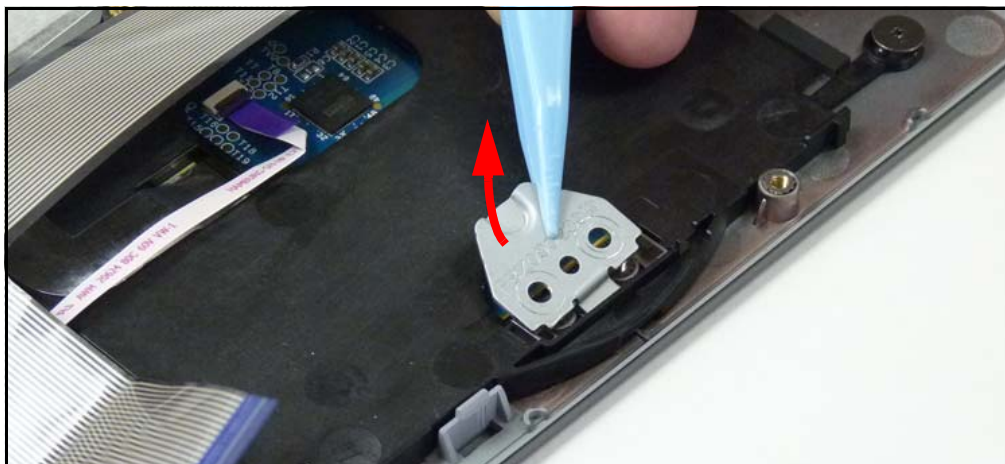

Figure 3-2. T-pad Bracket Removal
4. Lift up the keyboard (Figure 3-2).